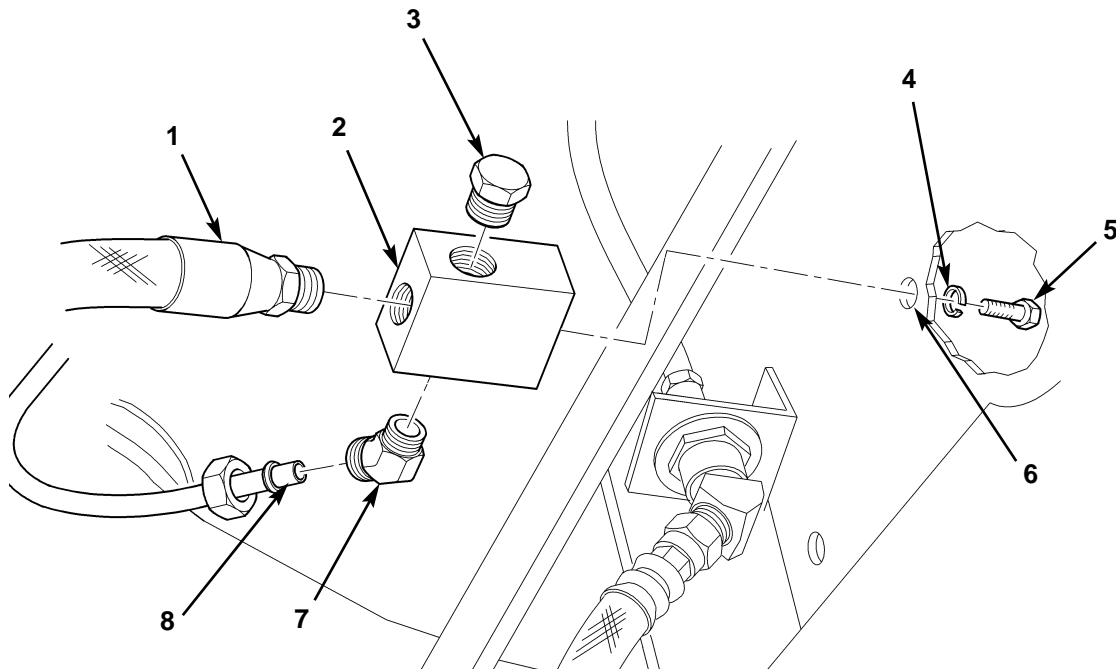

Figure 2. Mountable Tee on Right Frame Rail.
3. Disconnect 1/2 in. (13 mm) red tube (figure 2, item 8) from elbow (figure 2, item 7), and remove hose assembly (figure 2, item 1) from mountable tee (figure 2, item 2).
4. Remove elbow (figure 2, item 7) and plug (figure 2, item 3) from mountable tee (figure 2, item 2), and remove screw (figure 2, item 5), lockwasher (figure 2, item 4), and mountable tee (figure 2, item 2) from top hole of right frame rail (figure 2, item 6). Discard lockwasher (figure 2, item 4).
4. Apply pipe joint compound to male pipe threads, and install elbow (figure 2, item 7) and plug (figure 2, item 3) on mountable tee (figure 2, item 2).
5. Install mountable tee (figure 2, item 2) on top hole of right frame rail (figure 2, item 6) with new lockwasher (figure 2, item 4) and screw (figure 2, item 5).
6. Connect 1/2 in. (13 mm) red tube (figure 2, item 8) to elbow (figure 2, item 7).
7. Apply pipe joint compound to male pipe threads, and install hose assembly (figure 2, item 1) on mountable tee (figure 2, item 2).